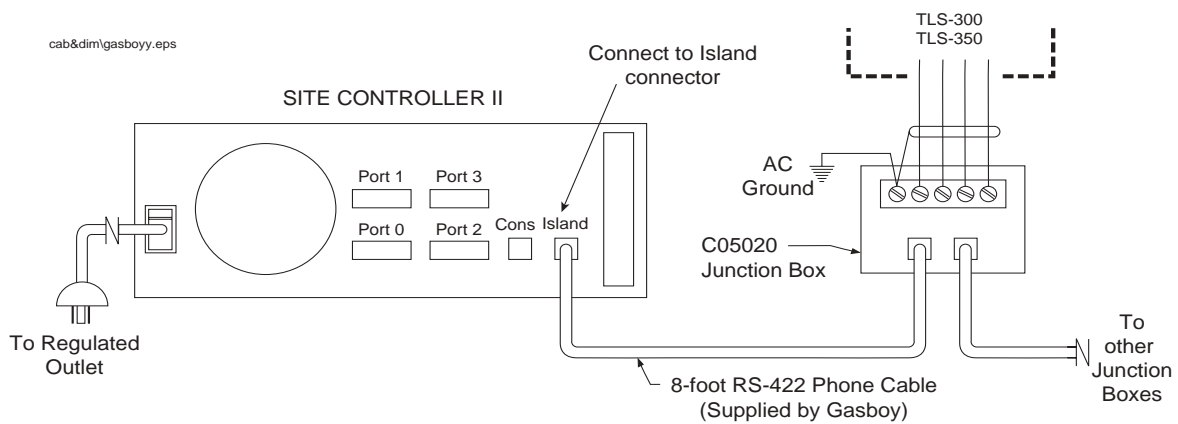

Figure 6. Connecting Site Controller to Junction Box - w/o BIR
1. Connect the CFN junction box to the Island connector on the rear panel of the Site Controller (see Figure 6).